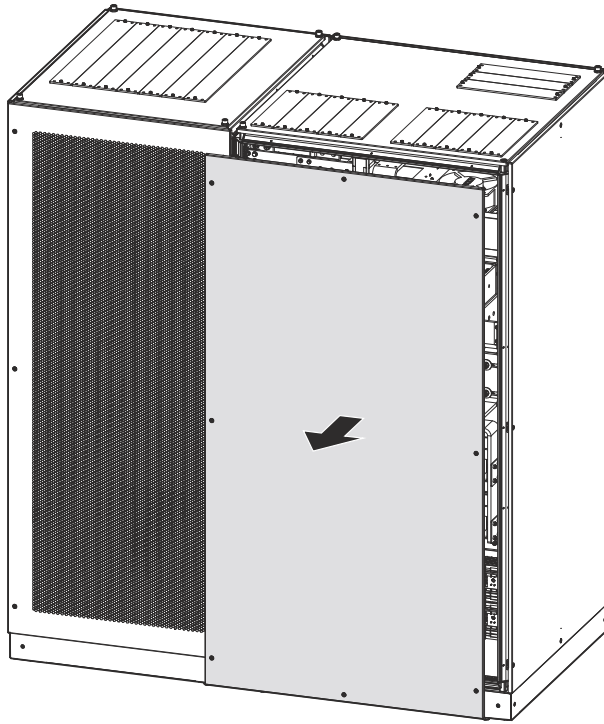

Figure3-29 Dismantle the wiring plate
- Step 2 Loose the screws of wiring plate at the left rear of UPS, and then dismantle the wiring plate, as shown in Figure3-29.